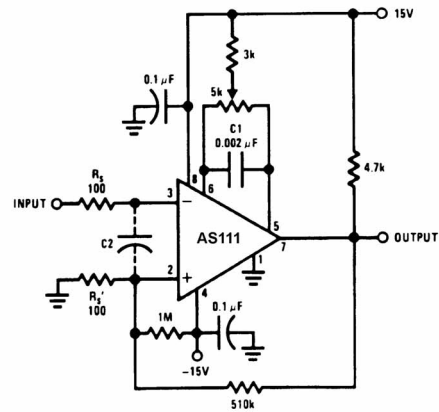

FIGURE 2. Conventional Positive Feedback
6. It is a standard procedure to use hysteresis (positive feedback) around a comparator, to prevent oscillation, and to avoid excessive noise on the output because the comparator is a good amplifier for its own noise. In the circuit of Figure 2, the feedback from the output to the positive input will cause about 3 mV of hysteresis. However, if R_s is larger than 100Ω , such as $50\text{ k}\Omega$, it would not be reasonable to simply increase the value of the positive feedback resistor above $510\text{ k}\Omega$. The circuit of Figure 3 could be used, but it is rather awkward. See the notes in paragraph 7 below.